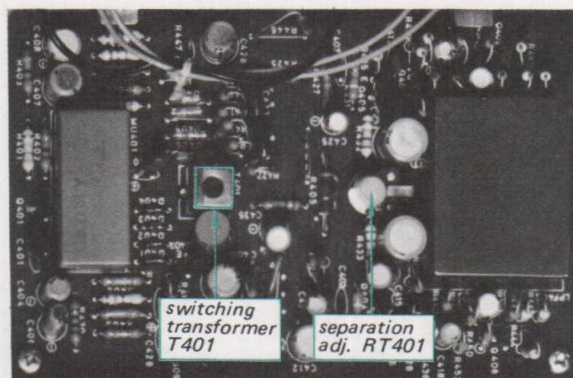

Fig. 3-9. Adjusting parts location
2. Precisely tune the set to the SSG's carrier frequency, then turn the top core of switching transformer T401 (see Fig. 3-9) to obtain maximum output at the left channel. Note that this adjustment has a close relationship with stereo distortion.
5. The output-level to residual-level ratio represents the separation. Adjust separation adj. control RT401 (see Fig. 3-9) for minimum residual level. Check the right channel for separation. Usually, about an 8 to 9 dB difference in channel separation exists. Re-adjust RT401 for minimum difference between left- and right-channel separation. While doing this, remember that the output level also changes according to the setting of RT401.